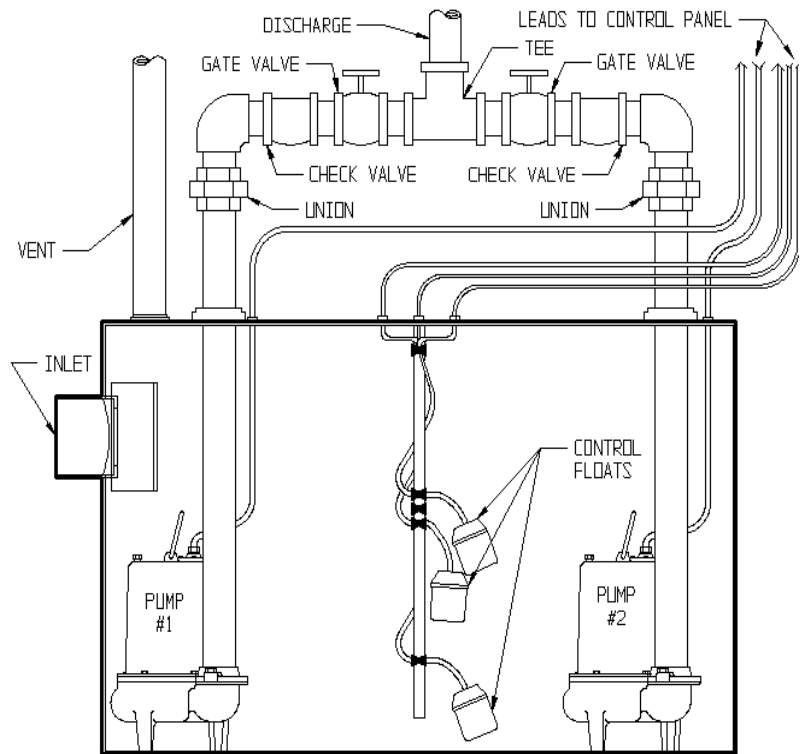

Fig. 3 – Typical Installation Duplex System
- B. **Duplex (Two Pump) Systems (see Fig. 3):** Set both pumps in place in the bottom of the basin. The duplex control used will include 3 or 4 floats that will either be tethered to one of the discharge pipes or to an independent rod hung from the cover. Follow the instructions provided with your duplex control device. Minimum pump turn off level should not be set below 6". Make sure all floats move freely. Connect an individual discharge pipe to each pump. **IMPORTANT: Do not reduce the discharge pipe size below that which is provided on the pump.** Sewage pumps should not be reduced below 2". In some applications, it may be necessary to increase the pipe size to reduce friction losses. Contact Liberty Pumps or other qualified person if you have any questions regarding proper pipe sizes and flow rates. To eliminate fluid recycling in duplex installations, it is necessary to have a check valve on each discharge line prior to tying the two discharges into one common line. Depending on the height of your basin, the check valves may either be installed inside or outside the